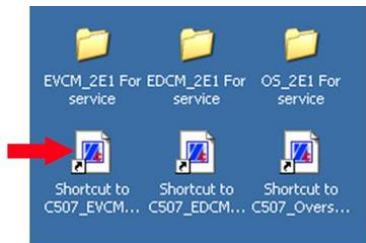

Figure 12
3.2 Double click the "C507_EVCM_2E1" shortcut (arrow Figure 12) on the computer's desktop to open the calibration tool.